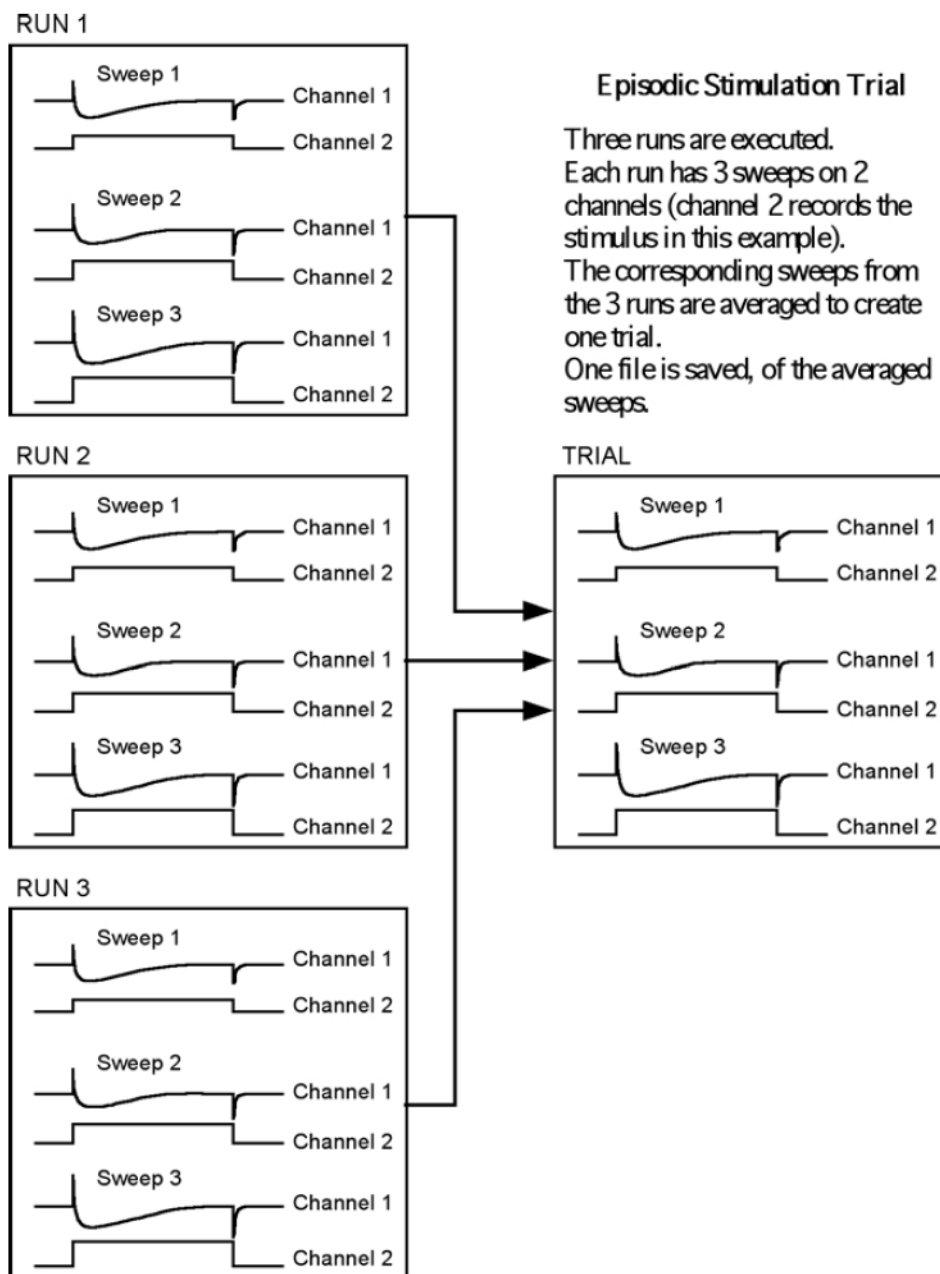

Figure 2-1: Clampex Software data structure showing relationship between runs and trial.
- **Sweep** - The digitized data from all input signals for a defined number of samples. A sweep can contain up to one million samples, with all signals multiplexed at equal time intervals. A command waveform can be concurrently output during a sweep. See Figure 2-1 for illustration of the relationship between runs, sweeps, channels and trials.
- **Run** - A set of sweeps. Sweeps within a run may all be the same, or they can be configured to have amplitude and/or duration changes from sweep to sweep. A run can contain up to 10,000 sweeps. If multiple runs are specified, all sets of sweeps are averaged together to produce a single averaged set of sweeps. See Figure 2-1 for illustration of the relationship between runs, sweeps, channels and trials.
- **Trial** - The data digitized from one or more runs, and saved as a single file. See Figure 2-1 for illustration of the relationship between runs, sweeps, channels and trials.